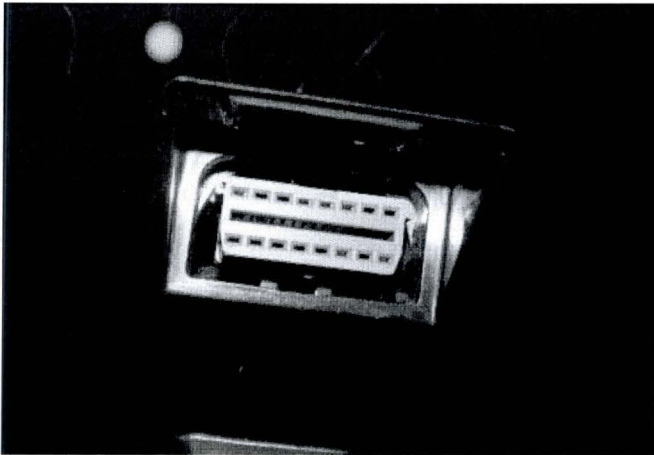

Figure 1
In January 2012 a TPI was released which instructed Dealers to remove where fitted the side view camera control module as a potential fault was identified with the original part. The latest specification side view camera control module is now available for all Bentley Mulsanne vehicles which were specified with the side view camera option. If the original module has been previously removed and replaced with the link loom as per previous instruction, a Yellow paint mark will be evident on the diagnostic plug surrounding cover as shown in Figure 1, please remove the loom and fit the replacement side view camera module as detailed within this document.
3. Should the original side view camera control module have been previously removed and replaced with the link loom 3Y0 998 381 there should be a Yellow completion paint mark on the diagnostic plug surrounding cover (Figure 1), please carefully remove this and replace with a White paint completion mark as shown in Figure 2. If the original control module has been replaced for the latest specification part or the factory fitted loom has been replaced with the latest specification part, a White paint completion mark should also be added (Figure 2)